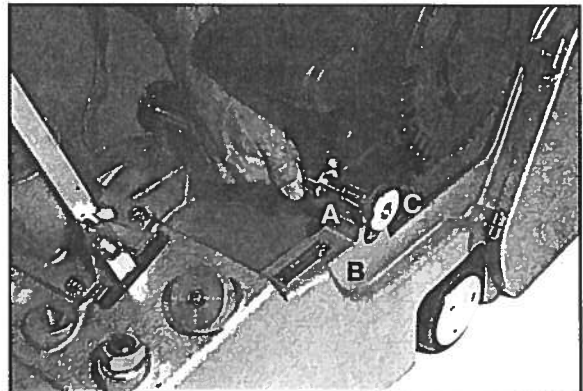

Fig. 02 A. Motor mount bar B. Motor mount grooves C. Knurled nut #82.
4. Open belt guard by removing knurled nut #7.02. Place motor on chassis, making sure motor mount bar rests in grooves of chassis. Tighten knurled nut #82 on motor mount. See Fig. 02.